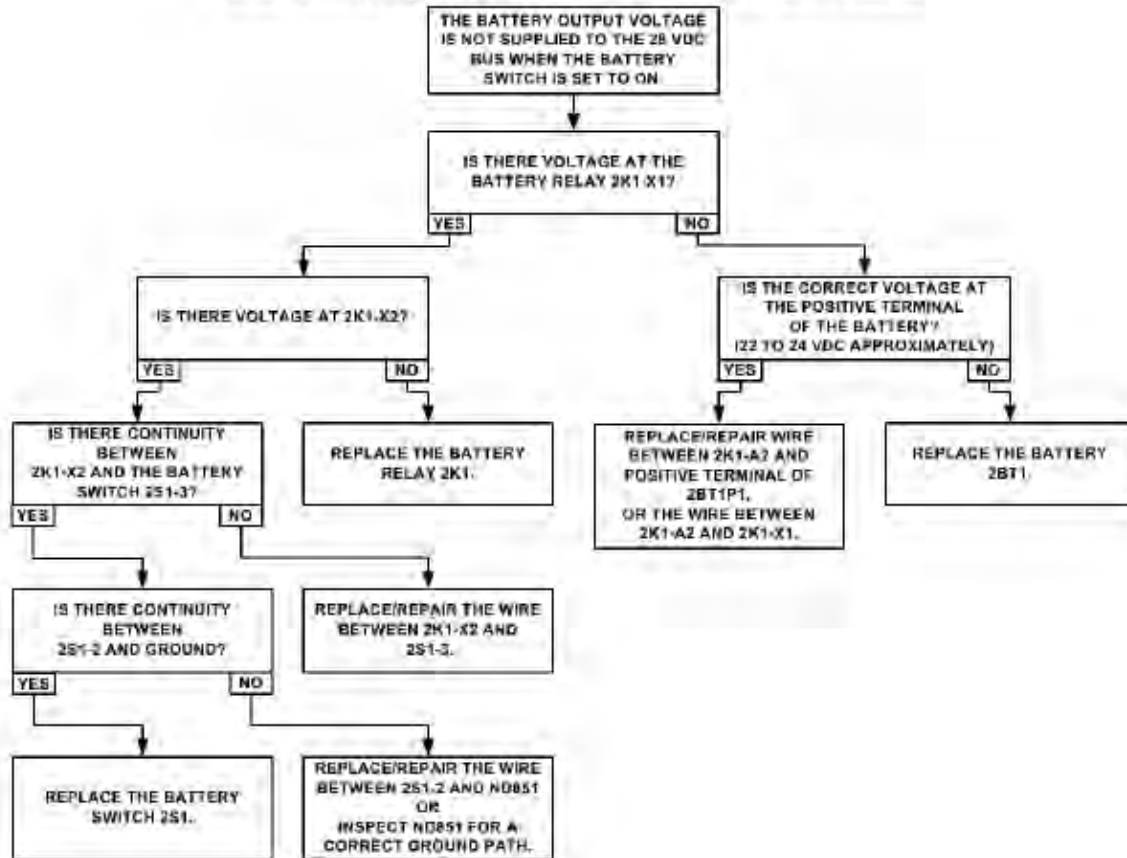

Figure 96-18: Battery System - Trouble No. 2
- If the voltmeter and warning horns do not operate (the battery output voltage is not supplied to the 28 VDC bus), refer to Trouble No. 2 (Figure 96-18).